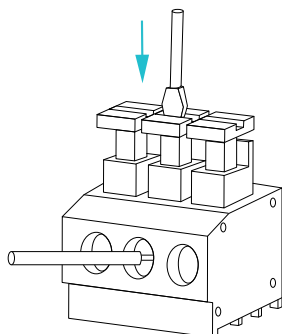

Figure 3 AcuHUM DM Push Button Terminal Block
3. To remove the wire, push in the button to open the spring, allowing the wire to be pulled out. Refer to Figure 3 for details.